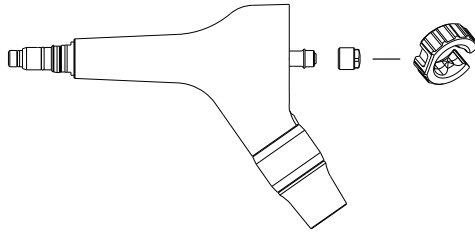

Figure 13
2. Use the side notch of the special wrench to align with the square hole of the cap at the intake pipe end, and screw out the intake pipe cap. (See Fig. 13)